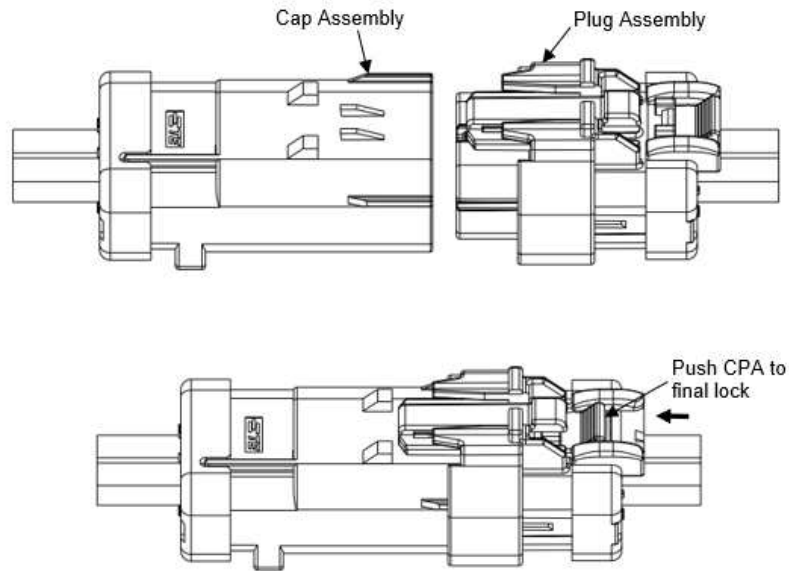

Figure 24
- i. Align the assembled Plug and corresponding connectors face to face with the key slots and latch features aligned. Then, push the connectors together, until hearing a “click” sound. Refer to Figure 24.
- ii. Push the CPA forward until there is an audible and tactile “click”; which mates and locks the connectors together. See Figure 24.